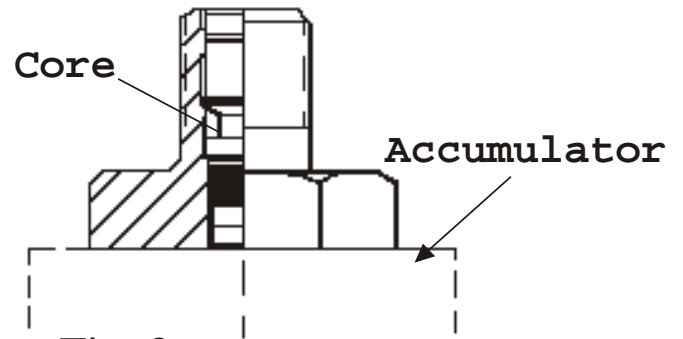
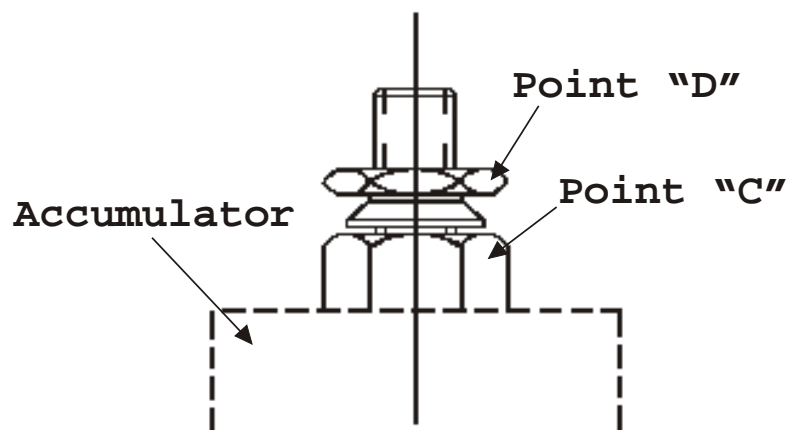

Fig. 2
Fig. 3
Make sure nitrogen supply is shut off. Attach hose to nitrogen bottle. If accumulator has a gas valve as shown in figure 2 follow steps A through J and skip steps AA through HH. If accumulator has a gas valve as shown in figure 3, skip steps A through J and follow steps AA through HH.
Accumulator having gas valve as per figure 2.
Accumulator having gas valve as per Figure 3.
- (AA) Remove gas valve guard and gas valve cap.
- (BB) Close bleed valve and, making sure not to loop or twist the hose, attach swivel nut to gas valve and tighten (10-15 in. Lb.).
- (CC) Hold gas valve at point "C" with one wrench while unscrewing hex nut at point "D" with a second wrench. This will open the poppet inside the gas valve. Note: four (4) turns will fully open the valve.
- (DD) Crack open nitrogen bottle valve and **slowly** fill accumulator. Close nitrogen bottle valve when gage indicates desired pre-charge.
- (EE) Let the pre-charge set for 10 to 15 minutes. This will allow the gas temperature to stabilize. If the desired pre-charge is exceeded, close nitrogen bottle valve, slowly open bleed valve until desired pressure is reached (Figure 3).
- (FF) With a wrench, tighten hex nut at point "D" to close internal poppet (5-8 ft. Lbs.).
- (GG) Hold gas valve at point "C" with wrench and remove swivel nut assembly.
- (HH) When pre-charging has been completed, replace gas cap and tighten (10-15 in. Lb.), install gas valve guard.
Accumulators having gas valve as per Figure 2.
Accumulators having gas valve as per Figure 3.
For accumulators having gas valve as shown in Figure 5, attach gaging assembly as shown in Figure 2 following Steps 1 through 5. Then, open bleed valve until all gas pre-charge is relieved from accumulator. Then remove gaging assembly and gas valve.